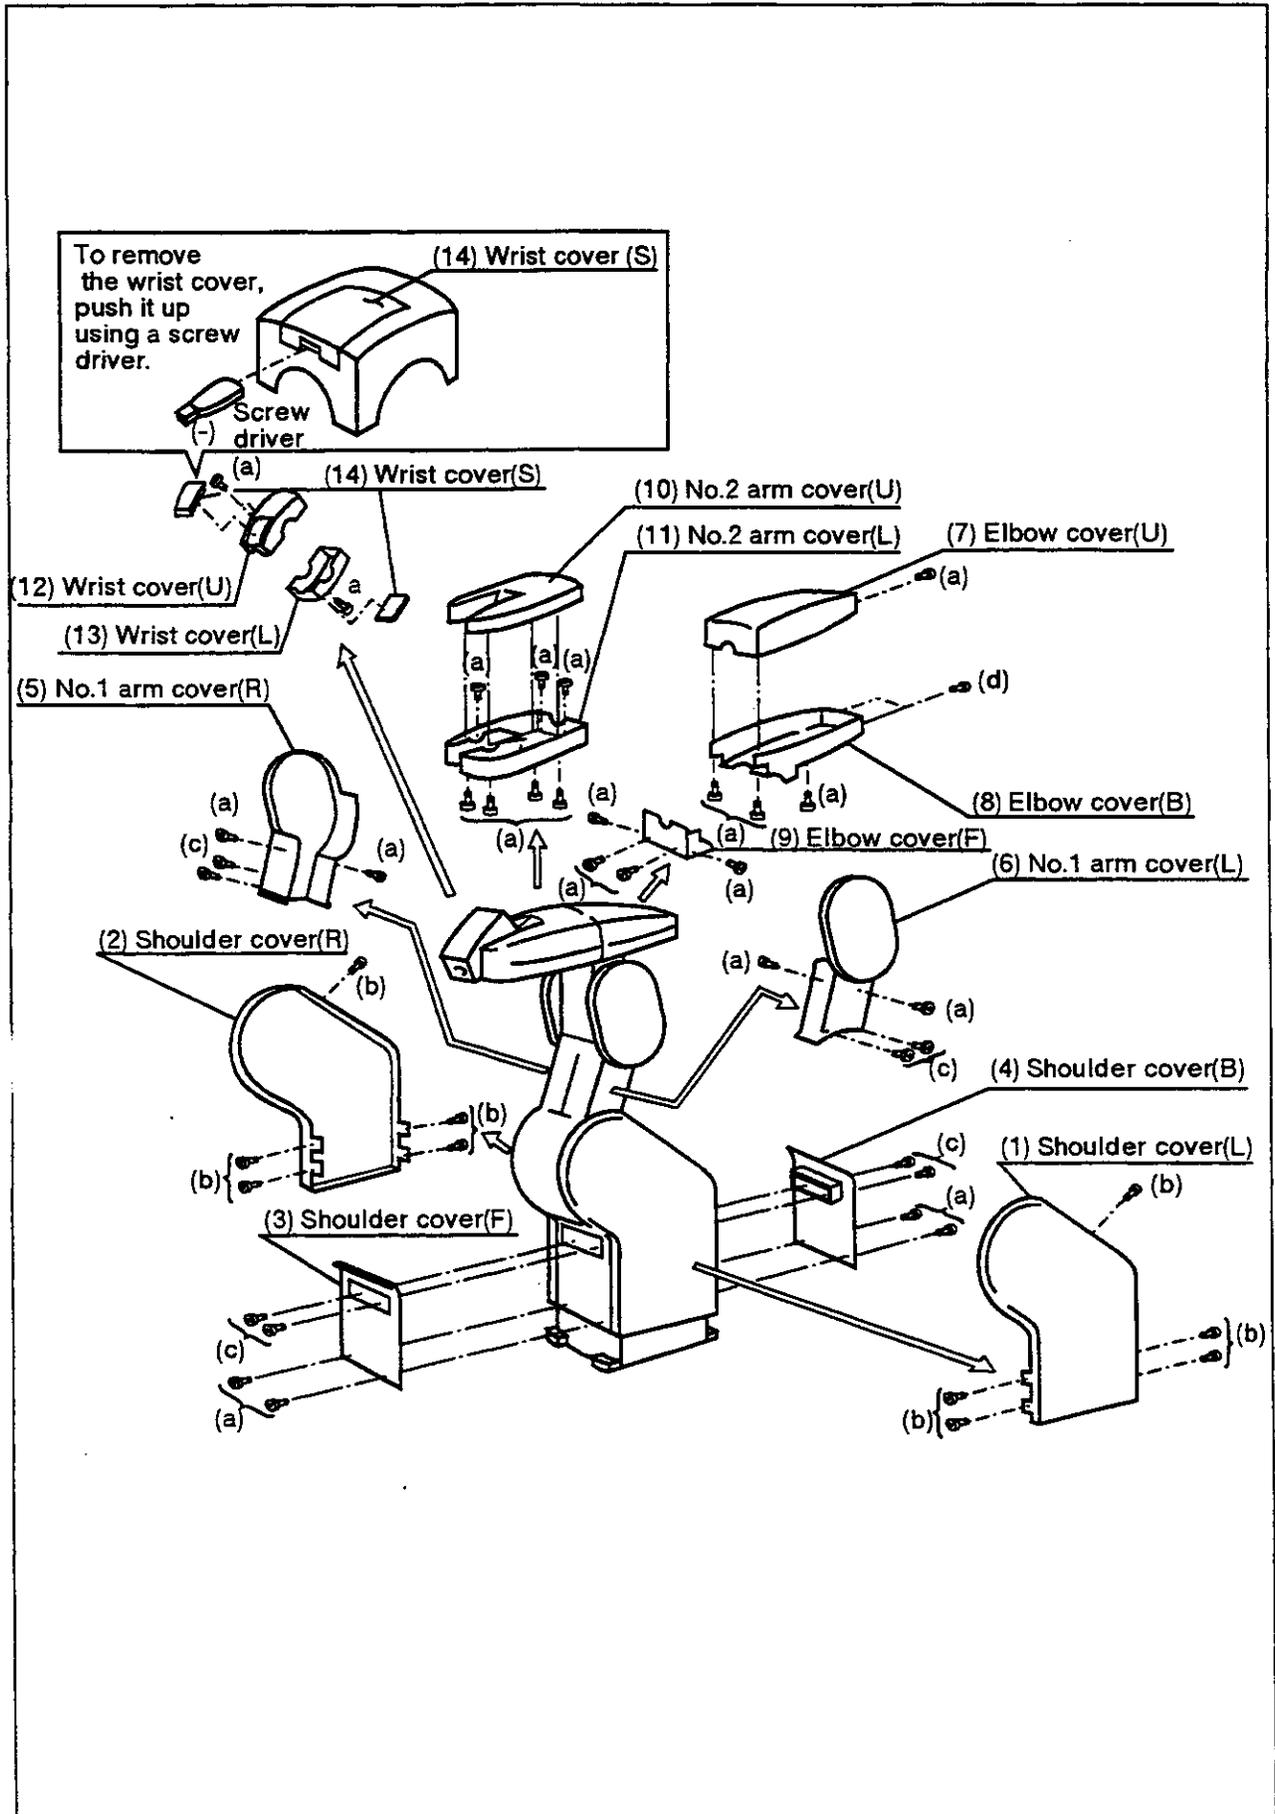
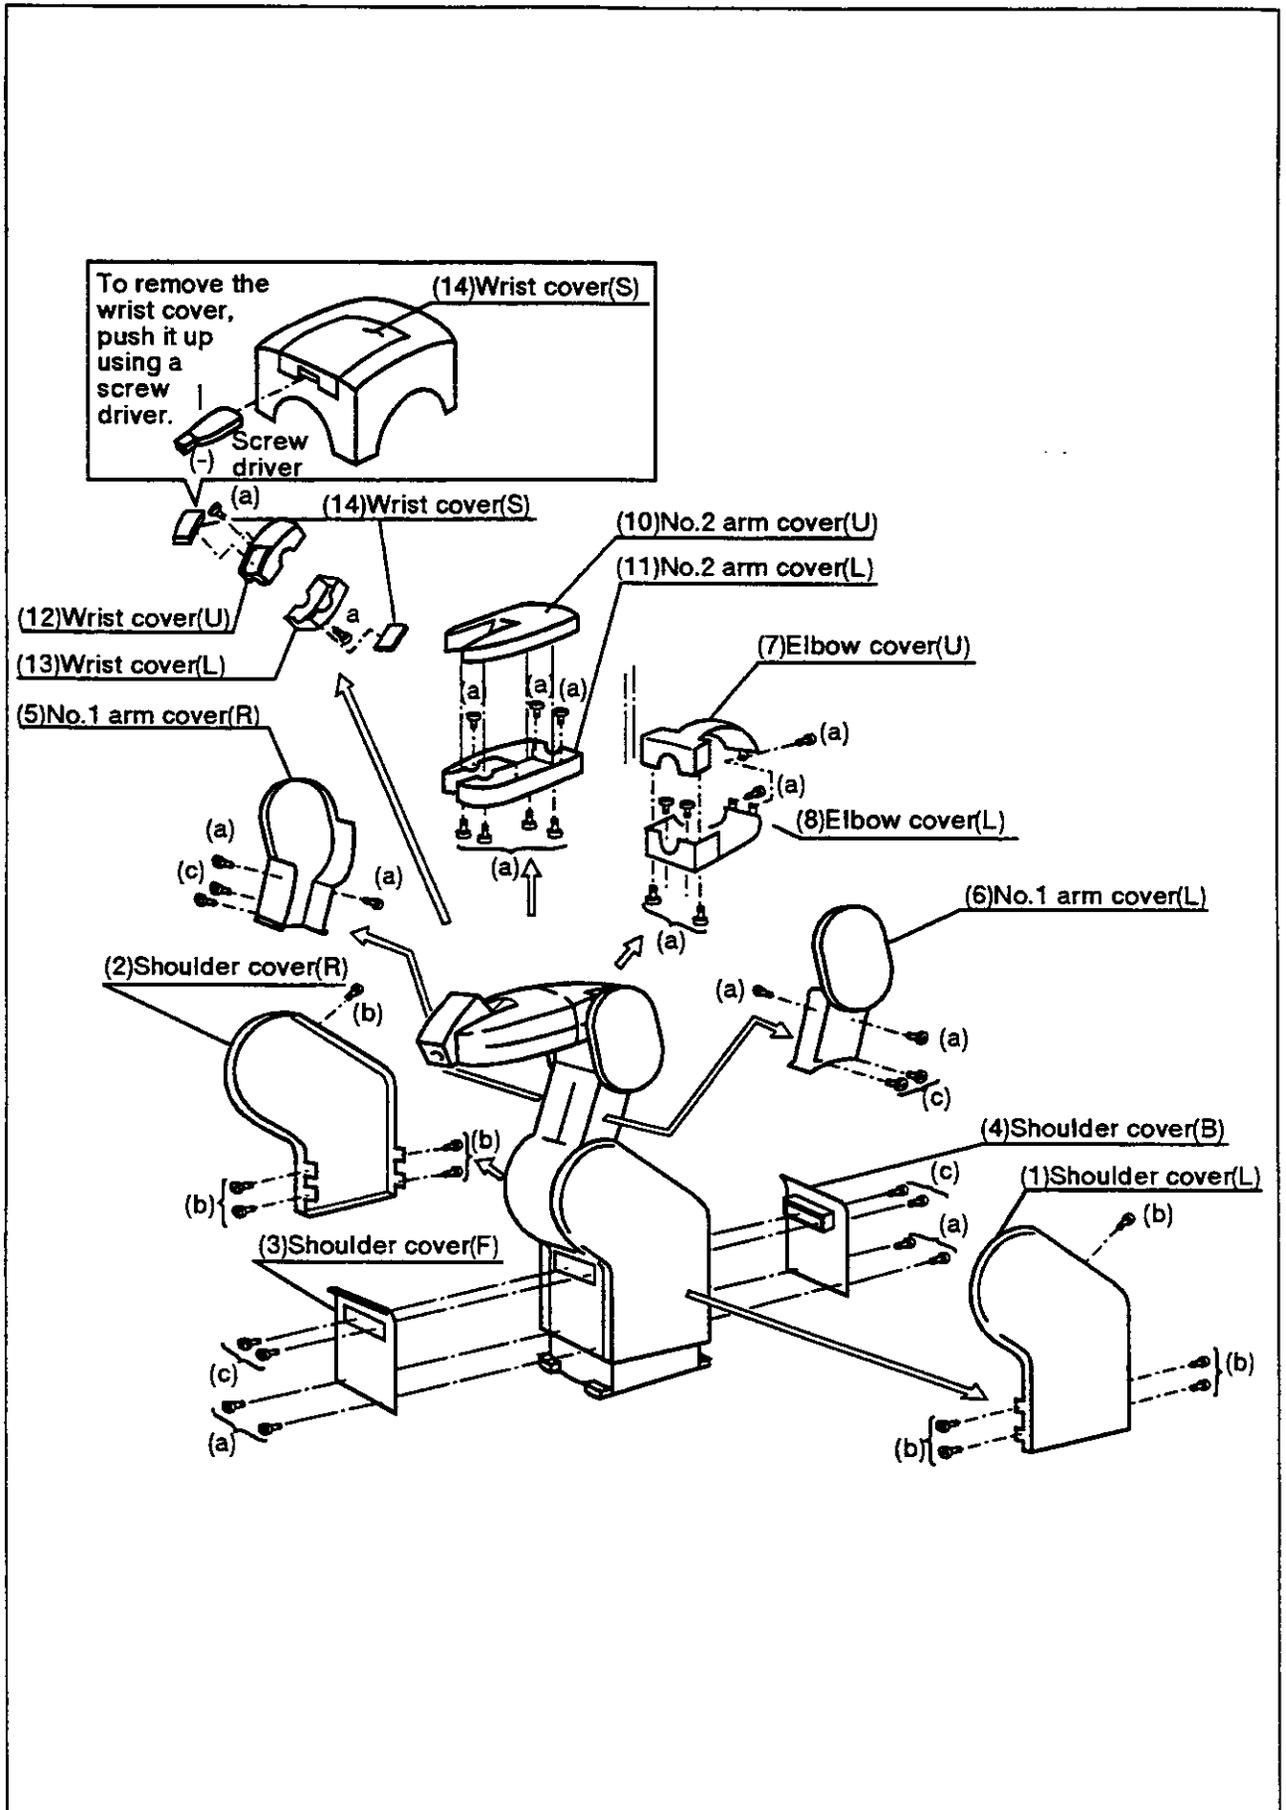

Fig. 5.3.1 How to disassemble the covers (RV-E2/RV-E2M)
Fig. 5.3.2 How to disassemble the covers (RV-E3J/RV-E3JM)
- (1) If the robot is the RV-E2/RV-E2M, refer to Fig.5.3.1, and if the robot is RV-E3J/RV-E3JM, refer to Fig. 5.3.2, and remove the cover.
- (2) The names of the covers are shown in Table 5.3, and the list of cover installation screws is shown in Table 5.4.
- (3) Some covers may be difficult to remove depending on the posture of the robot. In this case, change the robot posture with jogging operation, and then remove the cover.
- (4) Use the removal procedure in reverse to install the cover after maintenance and inspection.
The product numbers and symbols used in Table 5.3 and Table 5.4 correspond to those used in Fig. 5.3.1 and Fig. 5.3.2.